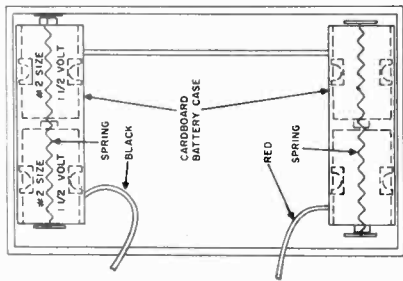

Fig. 1
Your D-3716B radio uses four #2, 1-1/2 volt flashlight cells as shown in Fig. 1. To replace these, proceed as follows:
3. Remove the two cardboard battery holders and insert two flashlight cells in each holder. Be sure batteries are inserted in direction shown in Fig. 1. Inserting them incorrectly will make receiver inoperative and cause possible damage to parts.
4. Replace battery holders containing the batteries in the metal clips exactly as shown in Fig 1 and secure them in place by rehooking the metal springs referred to in step 1 above.